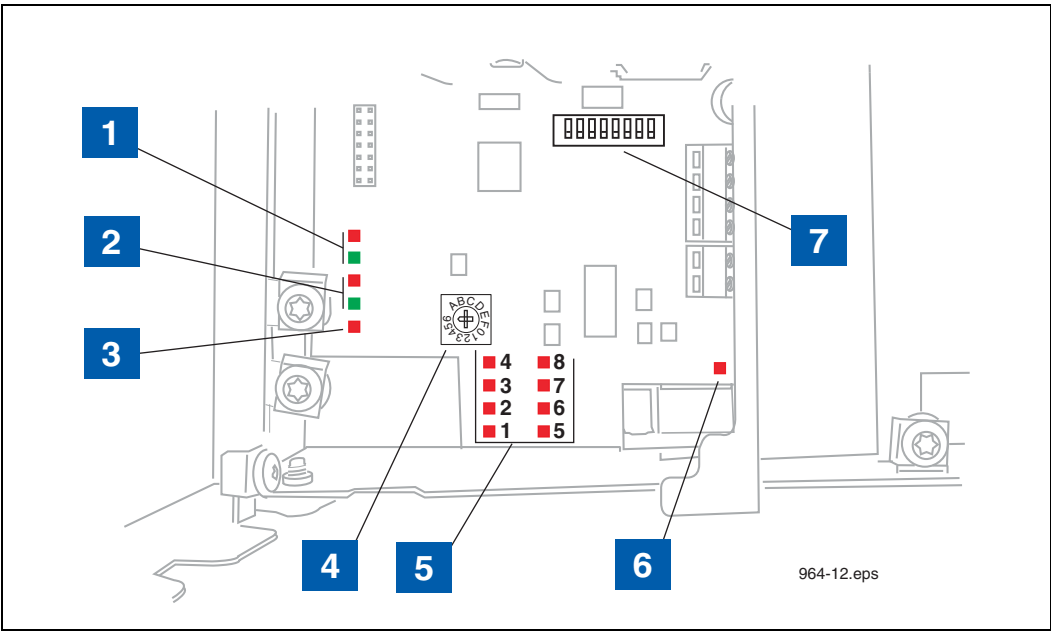

Figure 12. TLS RF Diagnostic LEDs And Switch Locations
- b. Go to the TLS RF, open its cover. One of the 8 Red received LEDs should be flashing (refer to item 5 in Figure 12). Observe which LED is lit and compare it against the Transmitter Device Number; they should match. For example, if the Transmitter ID is set to 1, the LED number 1 in the TLS RF should be flashing.
2. In this example, device output 1 is a Mag probe - Observe polarity. Note: each time a transmission is received from this device, LED 1 (see item 5 in Figure 12) will flash.
3. In this example, device output 2 is a Mag Sump Sensor - Observe polarity. Note: each time a transmission is received from this device, LED 2 (see item 5 in Figure 12) will flash.
Figure 12 locates the diagnostic lights and setup switches in the TLS RF.
LEGEND FOR NUMBERED BOXES IN Figure 12